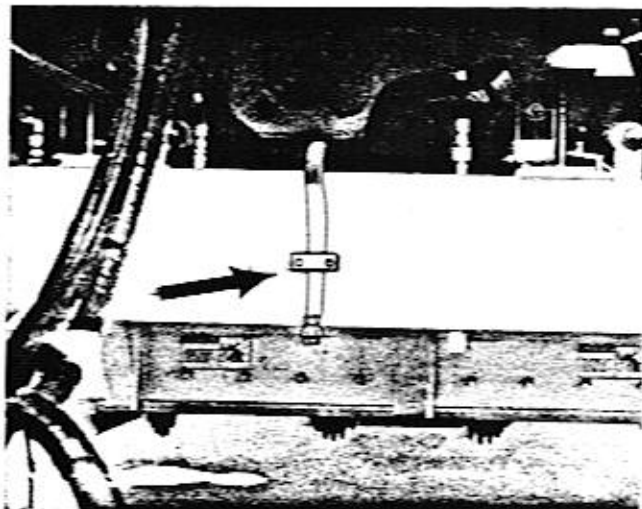

Figure 10-2
1. Remove drain plug from crankcase drain hose. See Figure 10-2. After draining the oil, clean and install the drain plug.